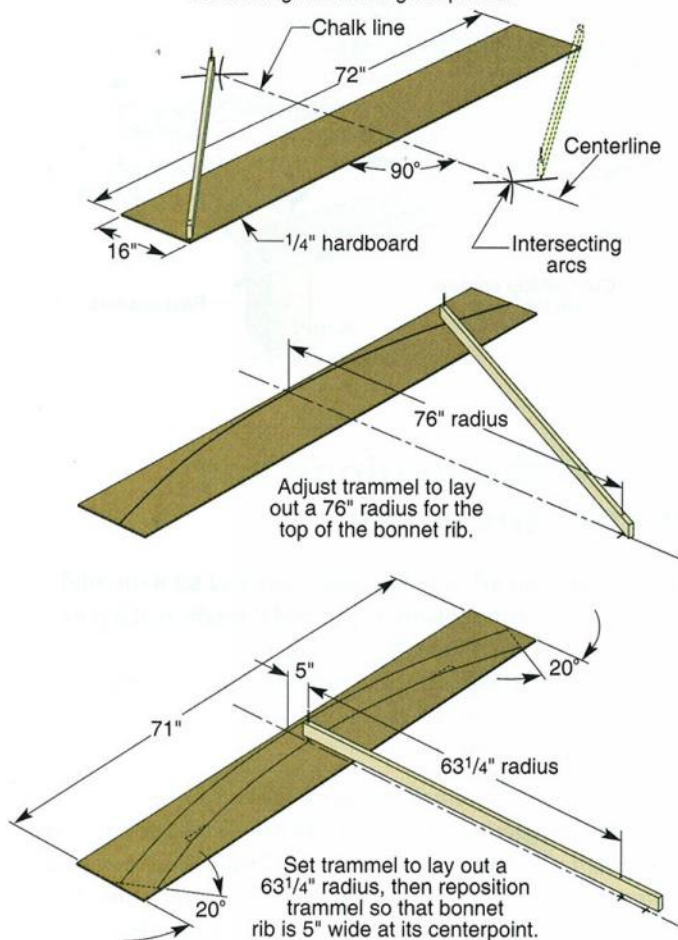

Fig. 5
1 MAKE THE TEMPLATE FOR THE FLARED BONNET RIBS (F) by attaching a 16 x 72" piece of $\frac{1}{4}$ "-thick hardboard to your floor with double-faced tape. Then follow the 3-step layout sequence as shown in **Figure 4**. (A pair of trammel points will help, but in a pinch, you can get by with a 2"-wide strip of plywood, pencil, and finish nails.) After laying out the top and bottom curves, measure and mark the ends of the bonnet rib pattern and the notches (**Figure 5**). Cut out the template on your bandsaw, then carefully sand up to your layout lines to create a smooth, or fair, curve.